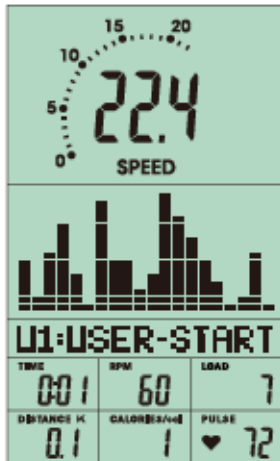
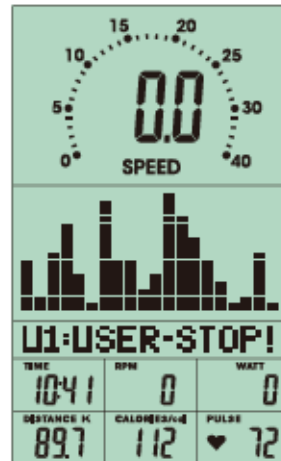

FIGURE 25
FIGURE 26
1. After enter USER PROGRAM mode, the first column of the profile is blinking (FIGURE 25). User may turn the joggle wheel to adjust the resistance level (FIGURE 26) to create his / her own profile.